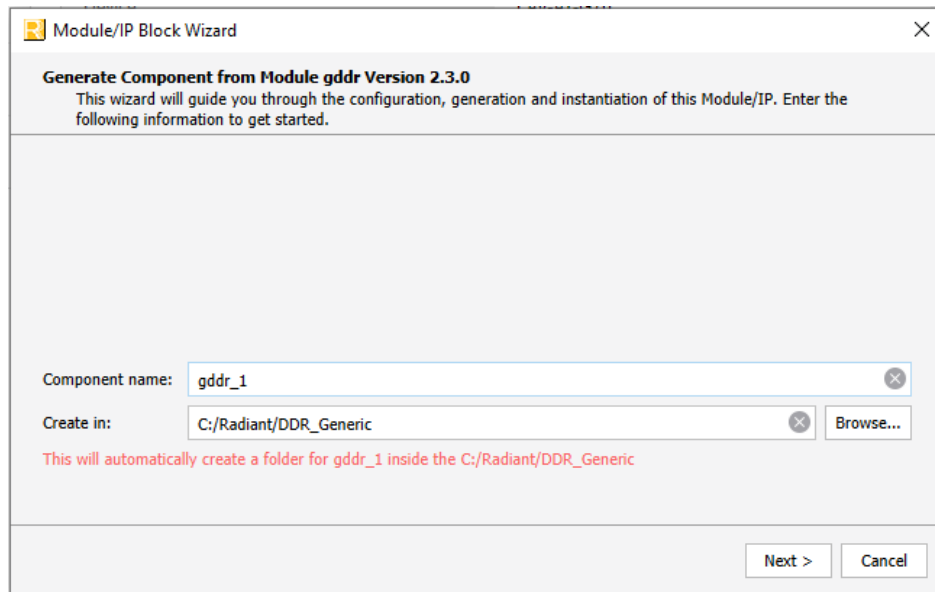
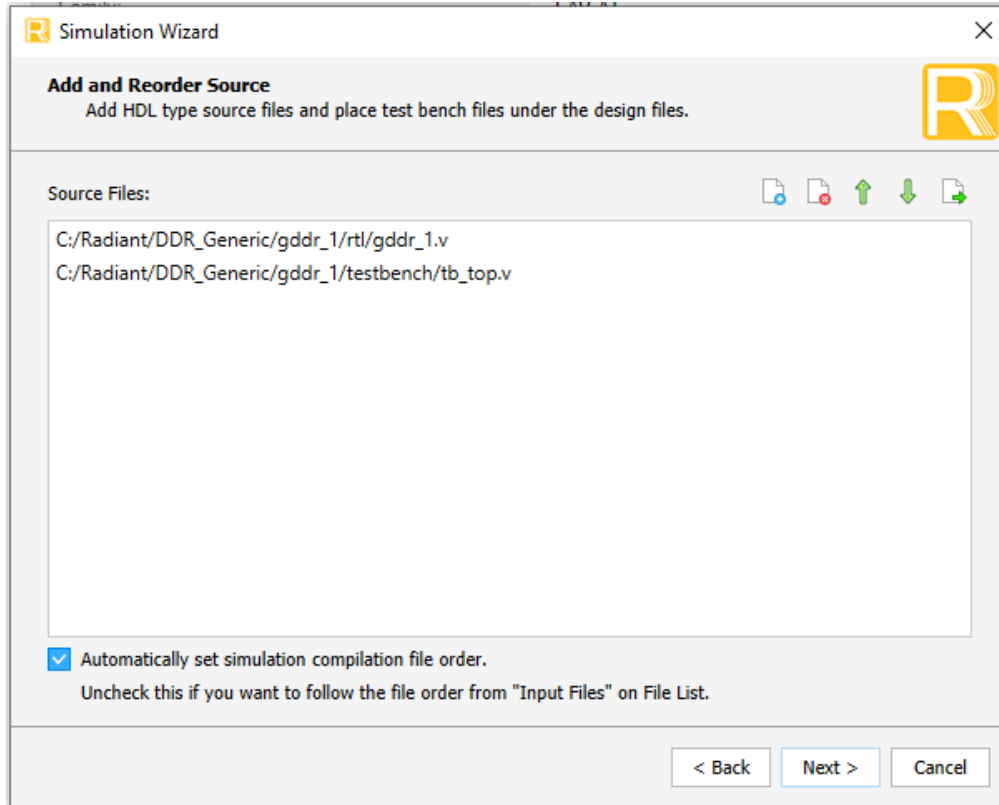

Figure 3.1. Module/IP Block Wizard
Figure 3.5. Adding and Reordering Source
In the **IP Catalog** tab, double-click on **DDR_Generic** under **Module, Architecture_Modules, IO** category. The **Module/IP Block Wizard** opens, as shown in Figure 3.1. Enter values in the **Component name** and the **Create in** fields and click **Next**.
- Click the **Finish** button. All the generated files are placed under the directory paths in the **Create in** and the **Component name** fields shown in Figure 3.1.
2. Click **Next** to open the **Add and Reorder Source** window, as shown in Figure 3.5.
IP Generation, Simulation, and Validation	Updated the following figures from Figure 3.1. Module/IP Block Wizard - Figure 3.5. Adding and Reordering Source.